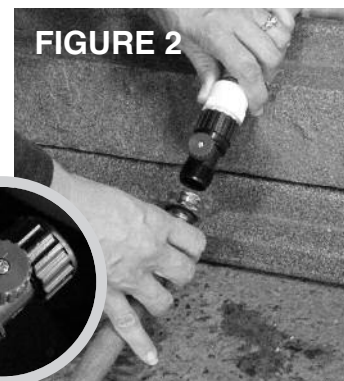

FIGURE 2
3. Attach a garden hose to the drain and open the blue ball valve (Figure 2). Water will start to drain. You may have some water left in the spa shell that did not drain. Remove it with a wet-vac or by hand with a small cup.